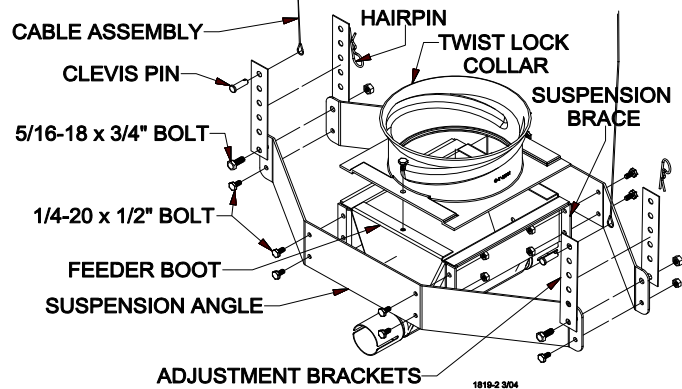

Figure 19.
4. Assemble suspension angles and suspension braces around feeder line boot (single or twin), using 1/4-20 x 1/2" Hex bolts and nuts (supplied in hardware package), see figure 19.
5. Assemble the twist lock collar to the top of the feeder line boot (single or twin) using 1/4-20 x 1/2" bolts and lock nuts (supplied in hardware package), see figure 19.
7. Two cable assemblies (cable with a sleeve clamp and a 5/32 thimble) are supplied with the suspension kit to support the hopper. Attach the cable assemblies to the adjustment brackets using the top holes of the adjustment brackets, see figure 19.